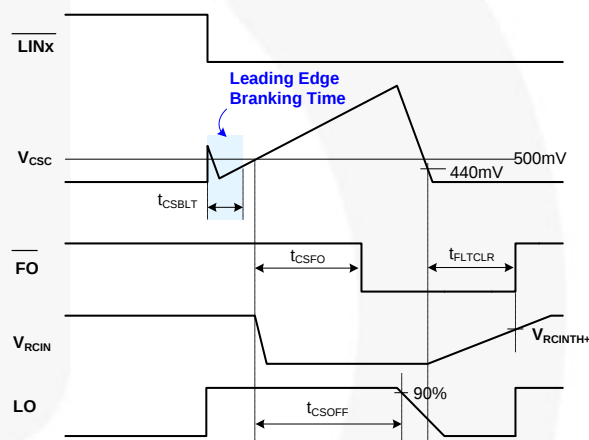

Figure 43. RCIN and Fault-Clear Waveform Definition
Figure 43 shows the waveform definitions of RCIN, $\overline{FO}$, and the low-side driver; which uses a soft turn-off method when an under-voltage condition of the low-side gate driver supply voltage (V_{DD}) or the current-sense pin (CS) recognizes a fault. If a fault condition occurs, the $\overline{FO}$ Pin is internally pulled to COM and all outputs (HO1,2,3 and LO1,2,3) of the gate driver are turned off. Low-side outputs decline linearly by the internal sink current source ($I_{SOFT}=40\ mA$) for soft turn-off, as shown in Figure 43.